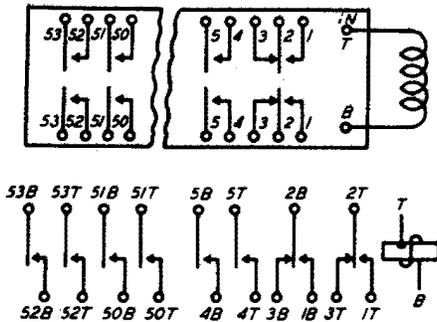

Fig. 45 - Winding and Spring Terminal Arrangement as Viewed From the Rear (terminal side) - 229-Type Relay
2.53 The contact terminals are numbered consecutively from right to left facing the terminal side of the relay with the suffix T (top) and B (bottom) as shown in Fig. 45 and 46 except on relays used in equipment where the contact terminals are identified by functional designations.